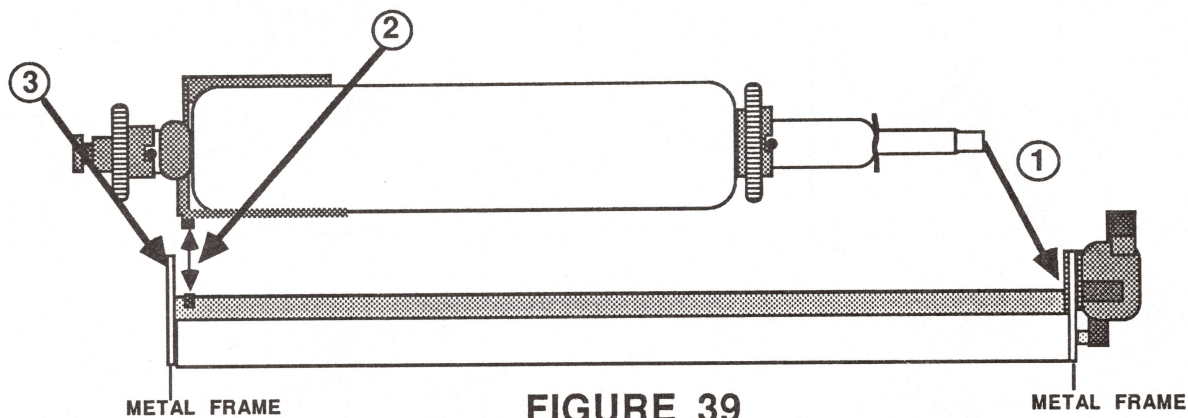

FIGURE 39
4. Slide the right side of the platen shaft into the bushing and free lever (see Figure 39, #1). Line up the tab on the paper empty frame with the notch in the plastic frame (see Figure 39, #2). Drop the left side into place (see Figure 39, #3).